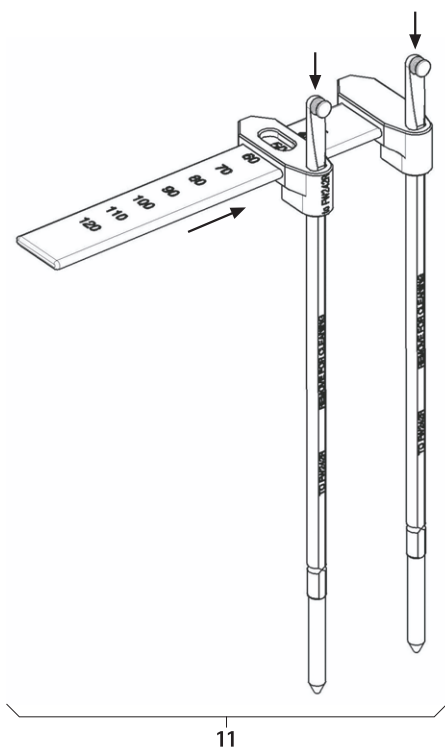

Fig. 16
- Mount rod length measuring instrument 11, see Fig. 16.